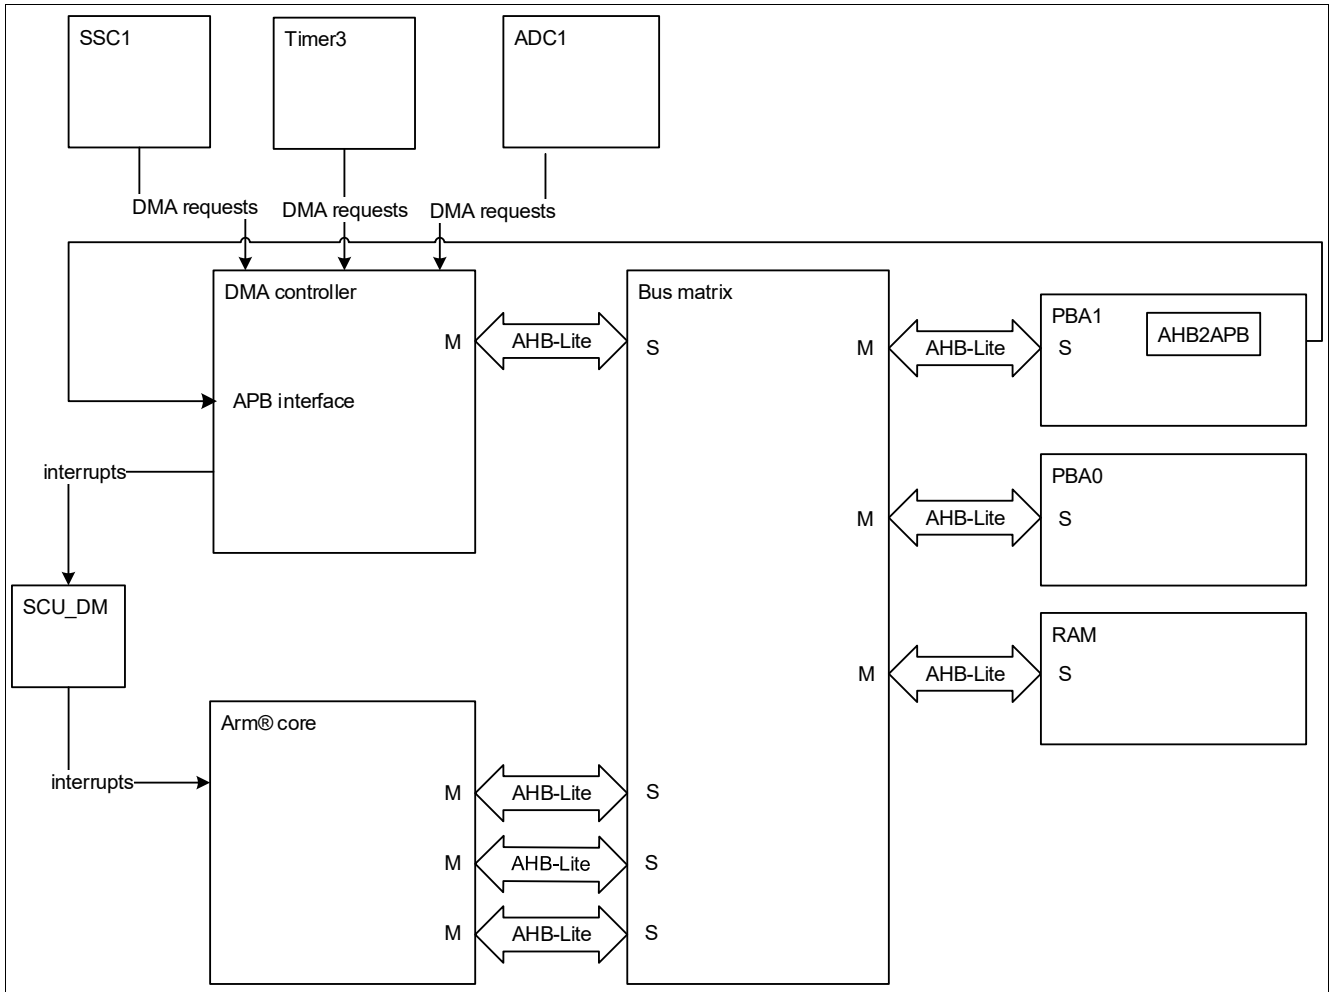

Figure 12 DMA controller top level block diagram
**Figure 12** shows the top level block diagram of the TLE9879QTW40.